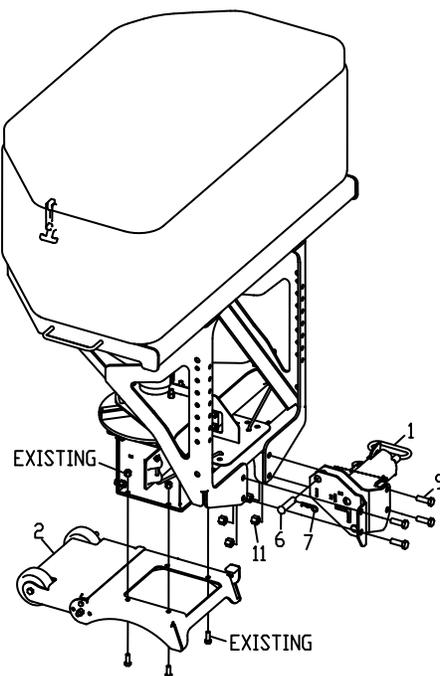

Figure 6. RT3 Attachment Installation Procedure
1. Refer to Figure 6. Mount RT3 Attachment (1) to Spreader using four 1/2"-13 X 1-1/2" Hex Head Bolts (9), four 1/2"-13 Nylon Lock Nuts (11), one 5/8" X 2-1/2" Clevis Pin (6), and one #16 Cotter Hairpin (7).
2. Mount Leg Assembly (2) to bottom of Spreader using four existing 3/8"-16 X 1" Hex Head Bolts and four existing 3/8"-16 Nylon Lock Nuts.